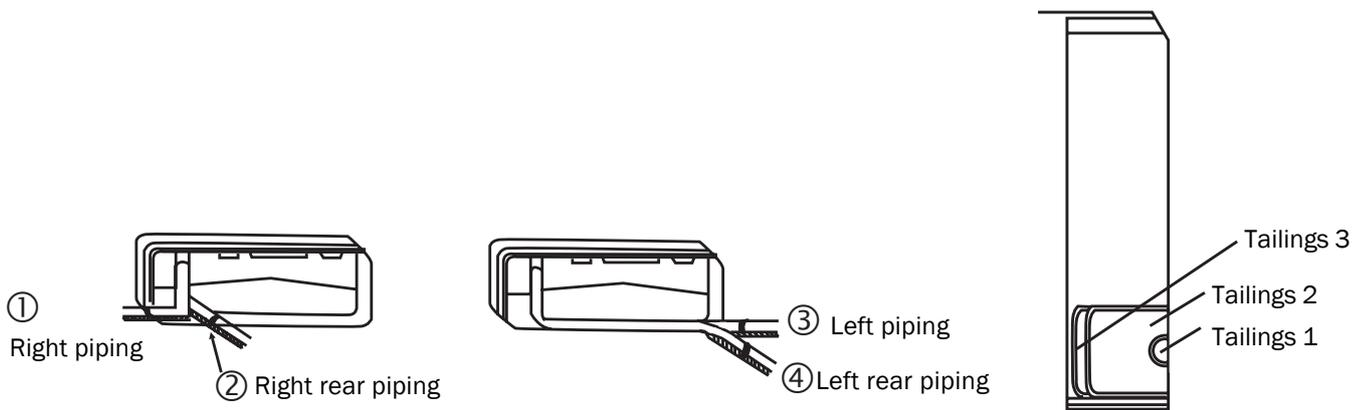

Fig. 7
1. When routing the piping and wiring from the left or right side of the indoor unit, cut off the tailings from the chassis if necessary (Fig.7).
①, ② and ③ in Fig.7 are the recommended piping.